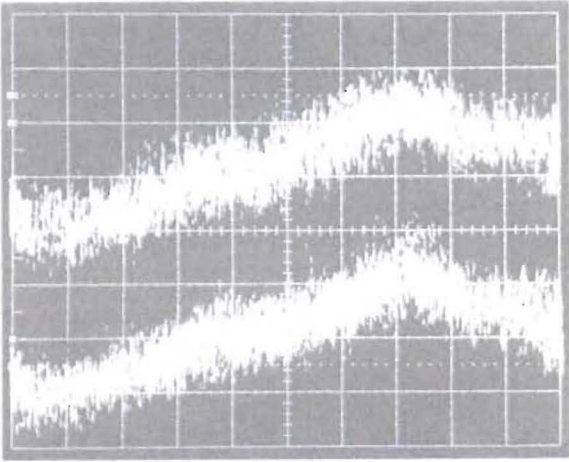

Figure 41 Dual Trace Display of Noise
- 2. Connect the noise to both vertical channels simultaneously in the alternate-sweep mode. Two noise traces will appear (Figure 41).